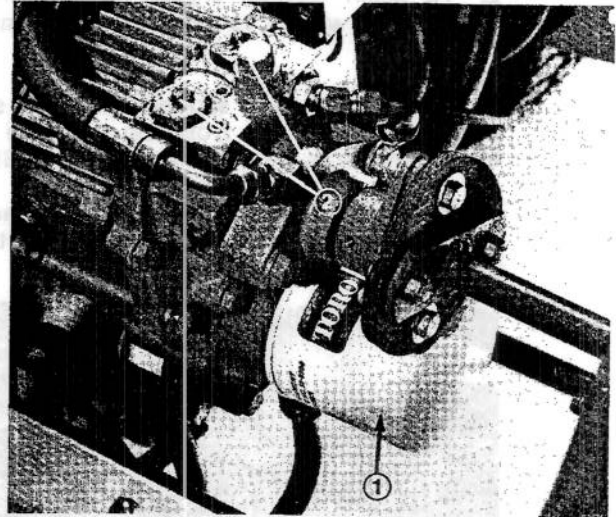

Figure 122
1. Remove hydraulic oil filter from mounting head (Fig. 122). Dispose of the filter properly.
Apply a liberal amount of No. 2 General Purpose Lithium Base Grease to the two by-pass valve pins located on top of the transmission to prevent corrosion build-up which could lock the pins into the by-pass position and cause internal transmission failure (Fig. 122).